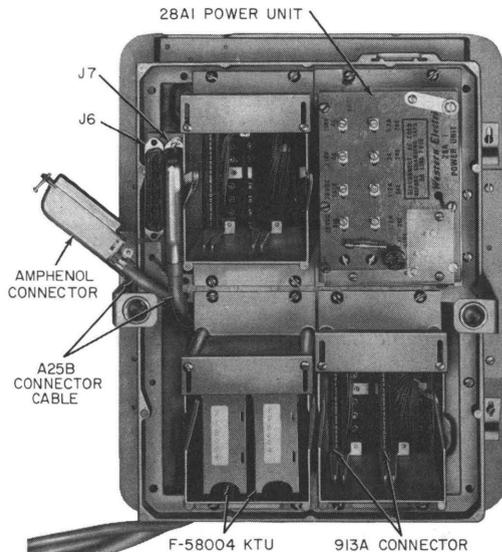
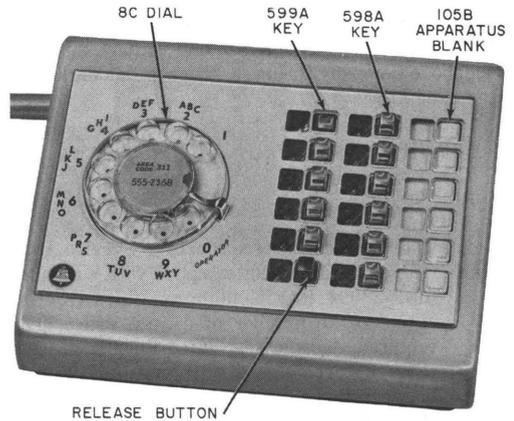
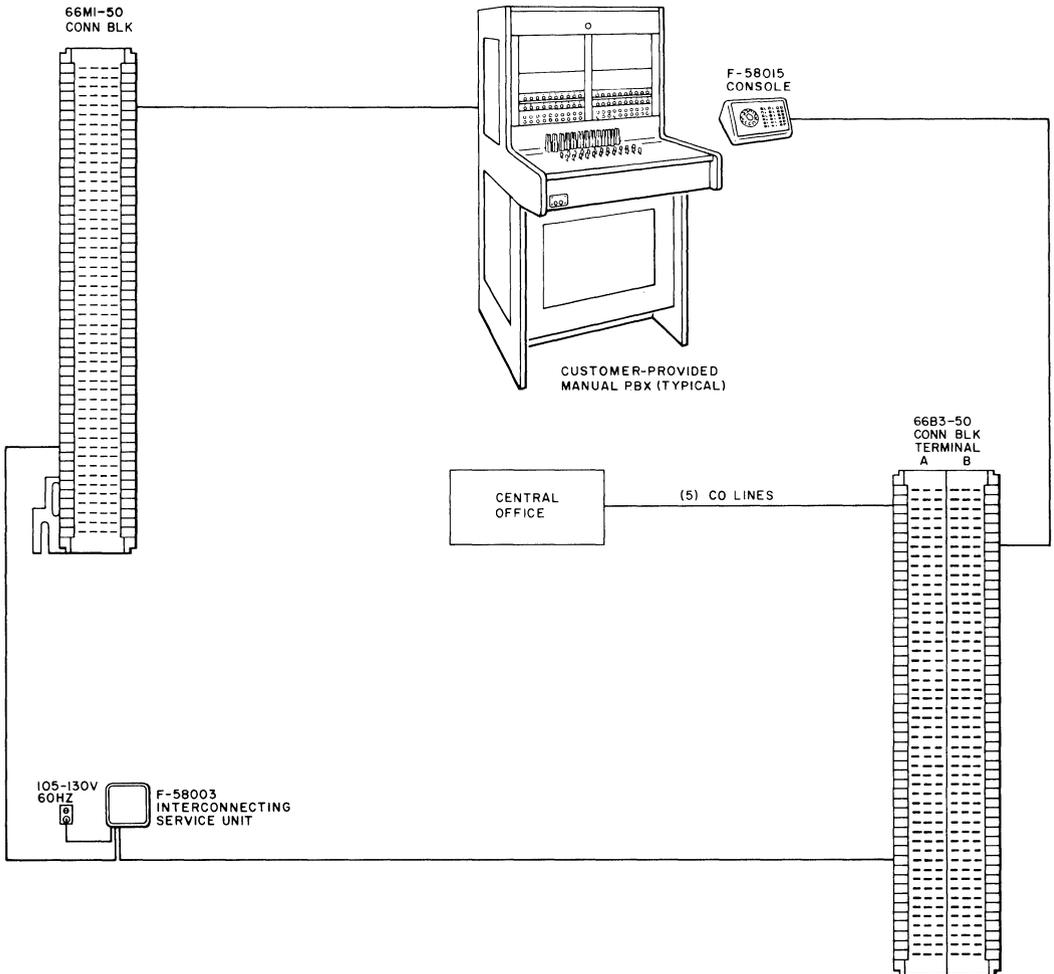
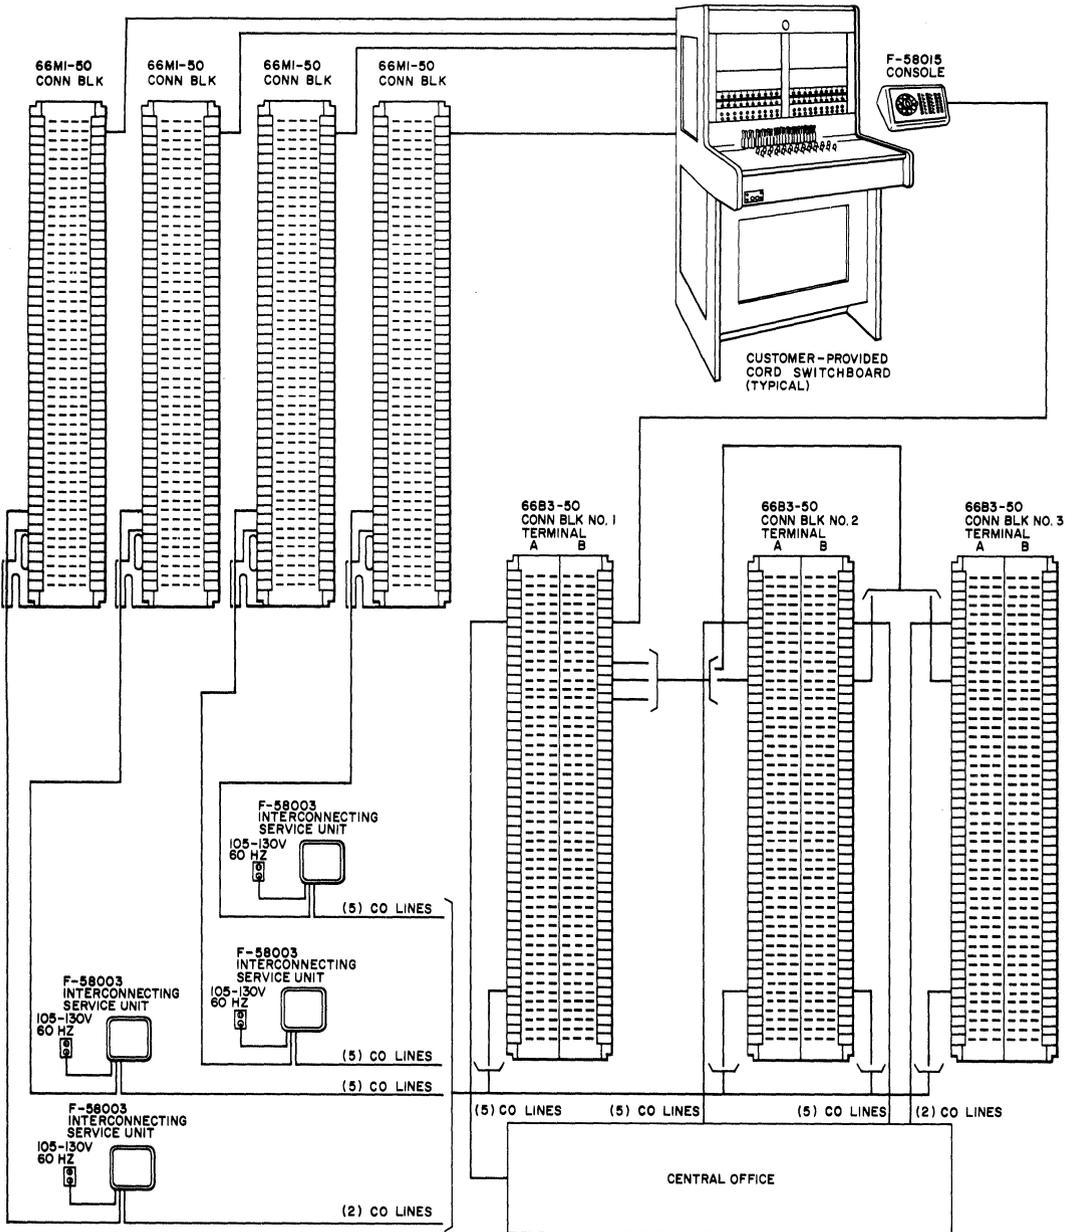

Fig. 1—F-58003 Interconnecting Service Unit (Cover Removed)
Fig. 3—F58015 Console
Fig. 4—Typical Installation of up to Five Voice Connecting Arrangements CDA
Fig. 5—Typical Installation of 17 Voice Connecting Arrangements CDA
● The F-58003 Interconnecting Service Unit (ISU) (Fig. 1 and 2), equipped with a number of F-58004 Key Telephone Units (KTUs) equal to the number of central office lines required, and the associated F-58015 console (Fig. 3) provides 2-wire manual access between Bell System Lines and a CP manual PBX arranged for supervision. Fig. 4 shows a typical arrangement for up to five Voice Connecting Arrangements CDA, Fig. 5 shows a typical arrangement of the maximum of 17 Voice Connecting Arrangements CDA.
- Consists of three receptacles which house five 913A connectors into which five F-58004 KTUs can be plugged (Fig. 1).
- A 28A1 plug-in type power unit that supplies negative 24 volts battery and ground (Fig. 1).